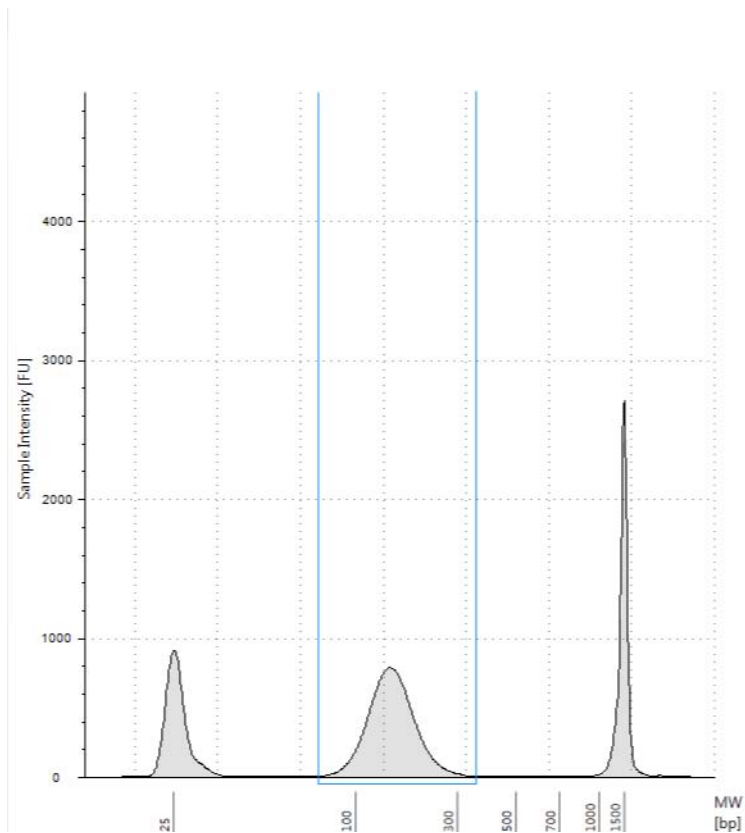

Figure 3 Analysis of sheared DNA using the 2200 TapeStation with a D1K ScreenTape. The electropherogram shows an average DNA fragment size of about 150 bp.
- 3 Verify that the electropherogram shows an average DNA fragment size of about 150 bp. A sample electropherogram is shown in Figure 3.